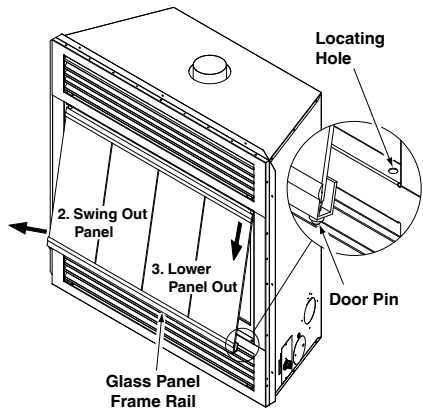

Figure 30 - Removing/Replacing Glass Door
2. Swing bottom glass panel assembly out until door pins on lower rail clear bottom face frame (see Figure 30).